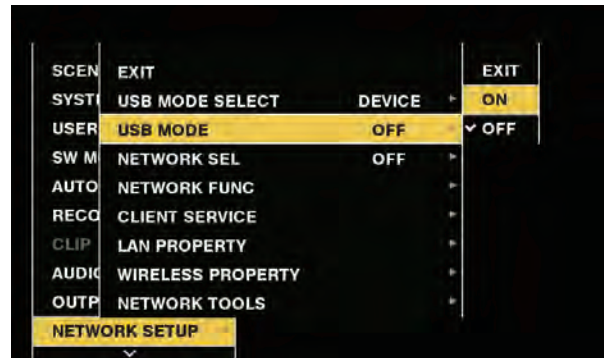

Fig. 3
**3** Set [ON] in the main menu → [NETWORK SETUP] → [USB MODE]. (Fig. 3)